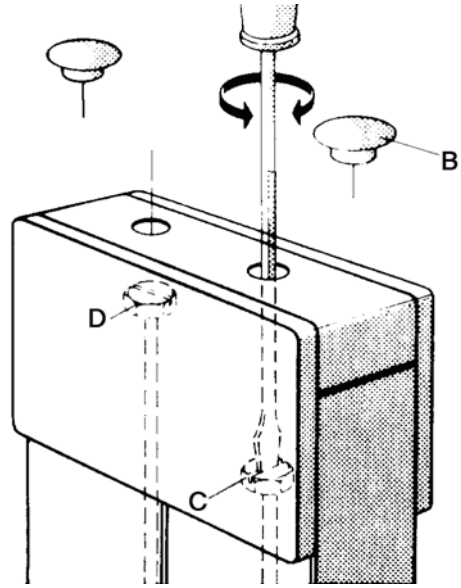

Figure 1-4. Rotation adjustment, step 2.
(b) Remove the screw caps (B) from the double joint of the scissors arm. See figure 1-4.
(c) Adjust the spring with screw C if the angle is more than 45° . See figures 1-4, 1-5, and 1-6.
(d) Adjust the spring with screw D if the angle is less than 45° . See figures 1-4, 1-5, and 1-6.